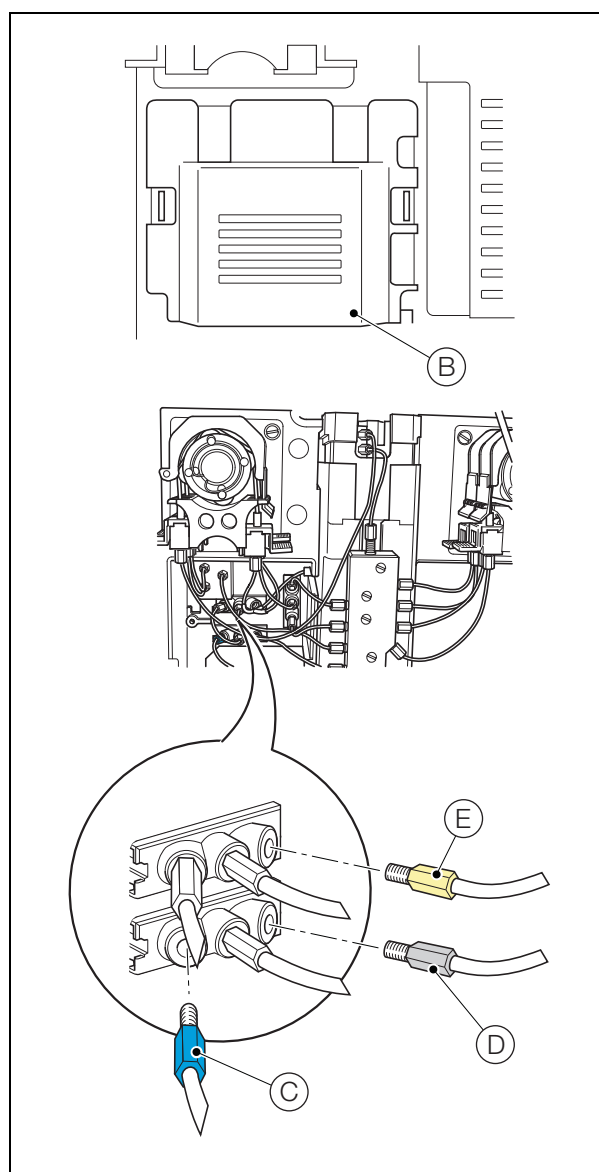

Fig. 4.2 Disconnecting the Solenoid Valves
3. Referring to Fig. 4.2:
- a. Remove the left-hand cover (B).
- b. Disconnect the sample tube (blue) (C) from the left-hand connector on the cleaning solution solenoid valve.
- c. Disconnect the cleaning solution tube (light grey) (D) from the right-hand connector on the cleaning solution solenoid valve.
- d. Disconnect the secondary calibration solution tube (yellow) (E) from the right-hand connector on the secondary calibration solenoid valve.